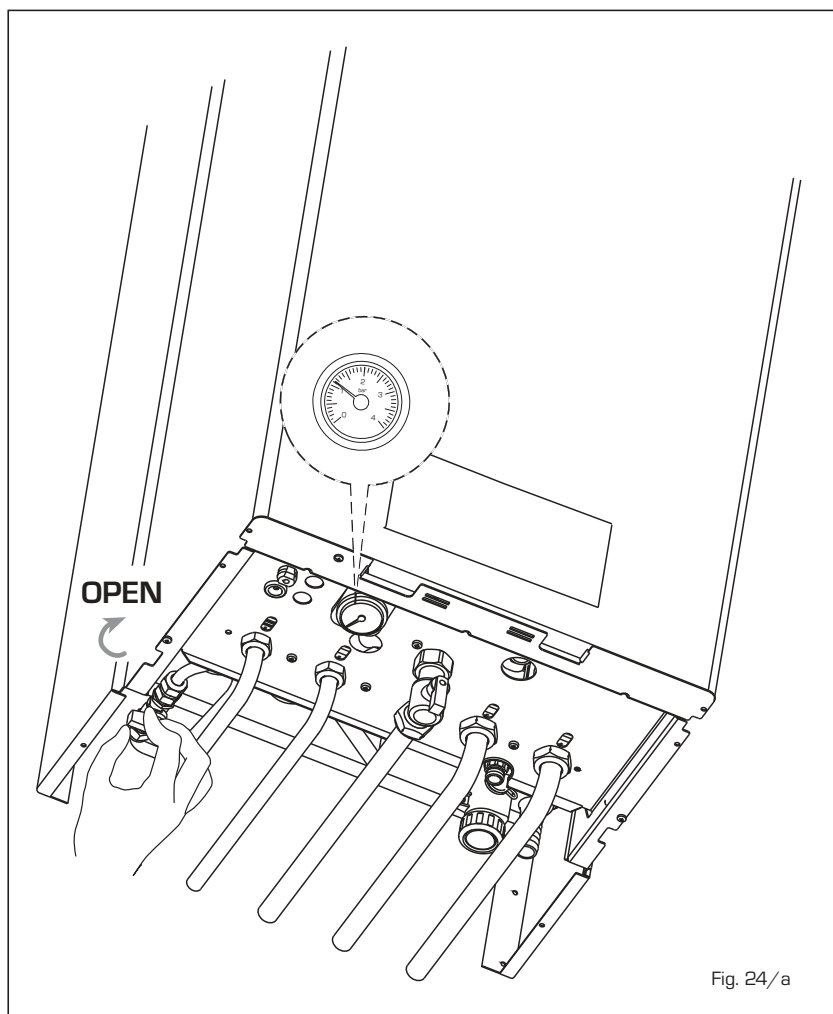

Fig. 24/a
- FLAME BLOCK "ALARM 06" (fig. 24/b)